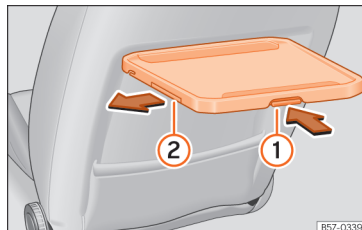

Fig. 176 Left-hand front seat: folding table with drinks holder.
- Press the unlocking lever under the table »» Fig. 176 ① and keep it that way.